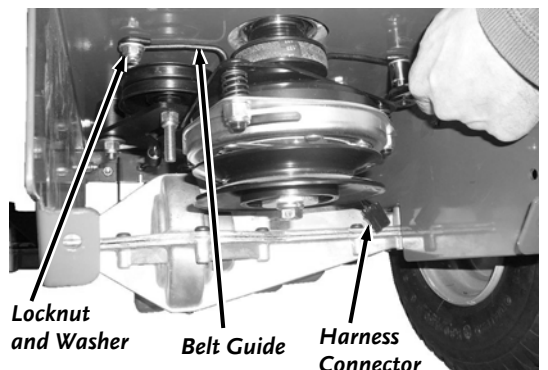

Figure 12
3. Disconnect the Harness from the Electric Clutch (**Figure 12**).